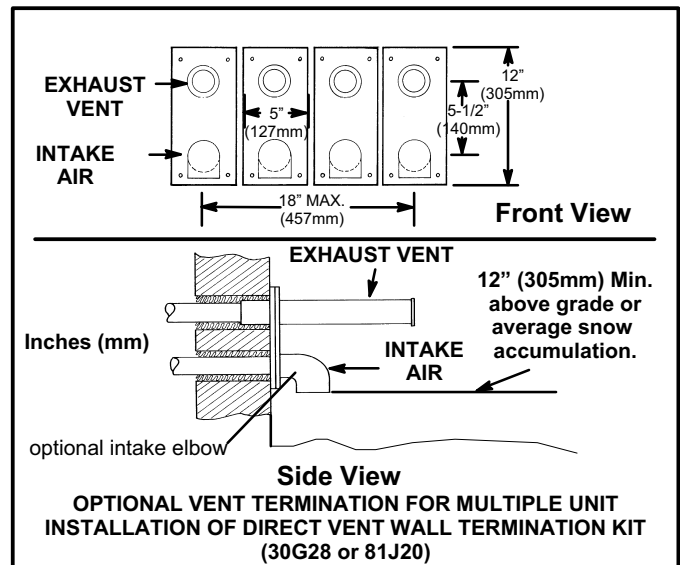

FIGURE 38
8. A multiple furnace installation may use a group of up to four terminations assembled together horizontally, as shown in figure 38.